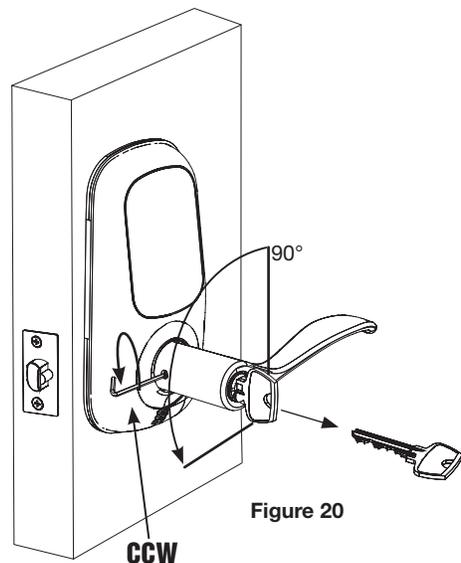

Figure 20
15. Secure lever handle by inserting hex key and rotating set screw **CCW** (Fig. 20).
Pull to remove key (Fig. 20) and test operation of lever, ensuring that latch moves smoothly.